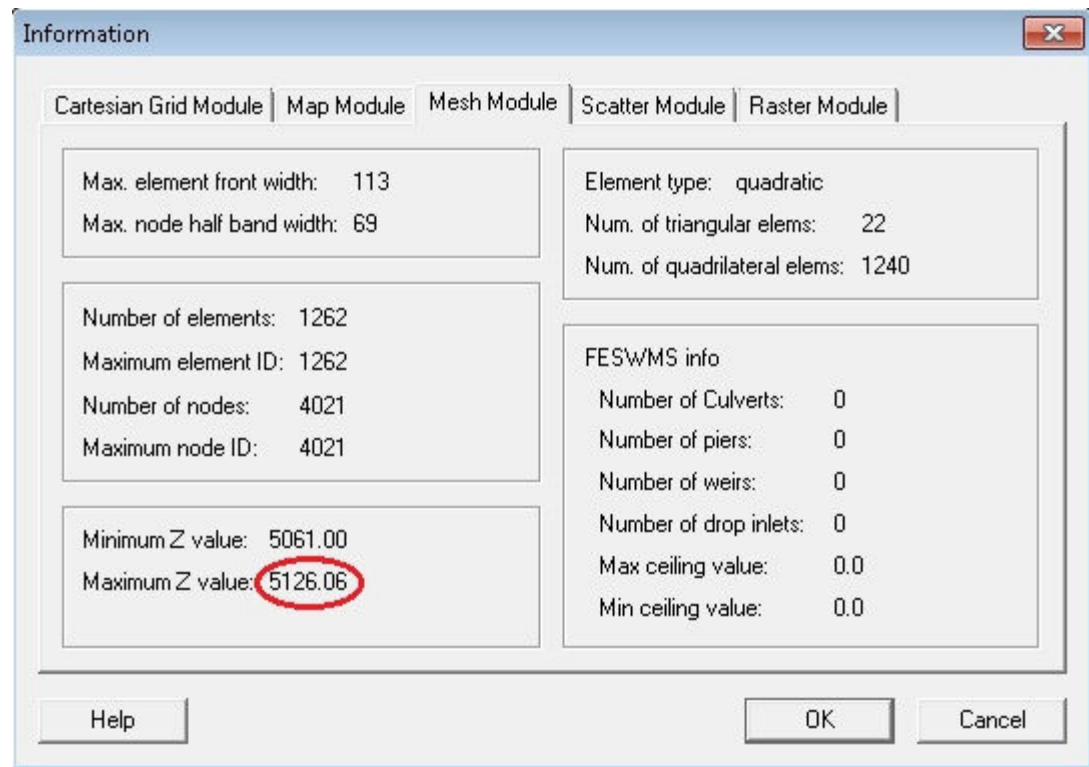

Figure 6. Mesh Information dialog.
3. In the *Mesh Module* tab, look at the *Max Z value*, indicated in Figure 6.